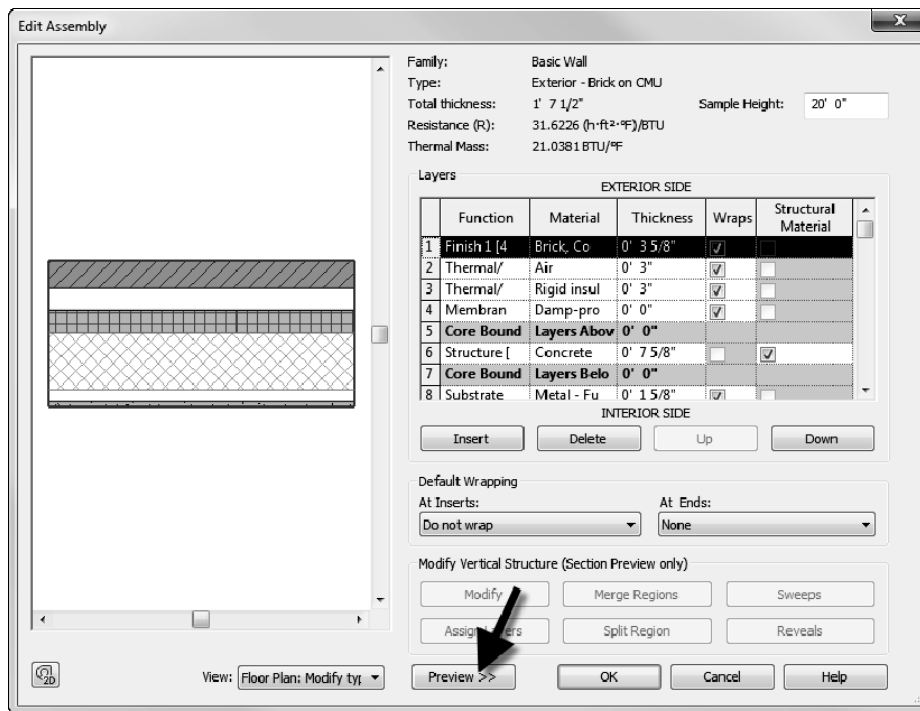

FIGURE 3-2.5 Edit Assembly
- Finally, you are in the *Edit Assembly* dialog box. This is where you can modify existing wall types or create new ones. Click **<<Preview** to display a preview of the selected wall type. (Figure 3-2.5)
Things to notice in the *Edit Assembly* dialog box (Figure 3-2.5):